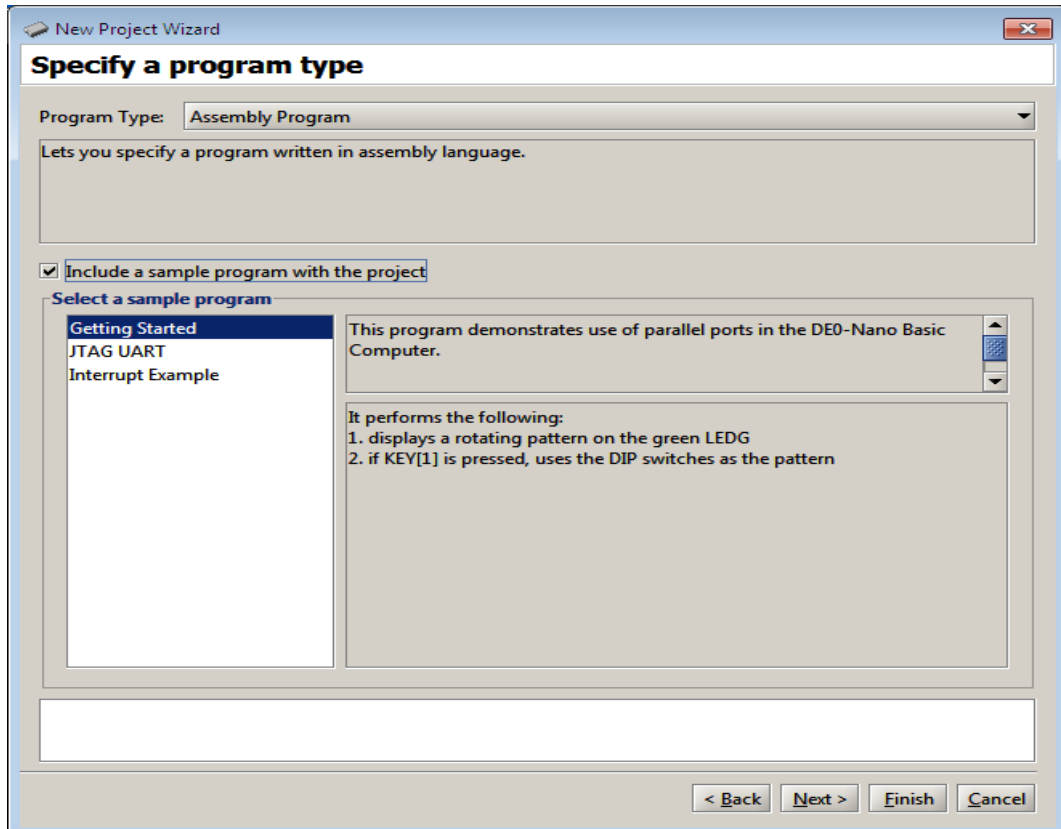
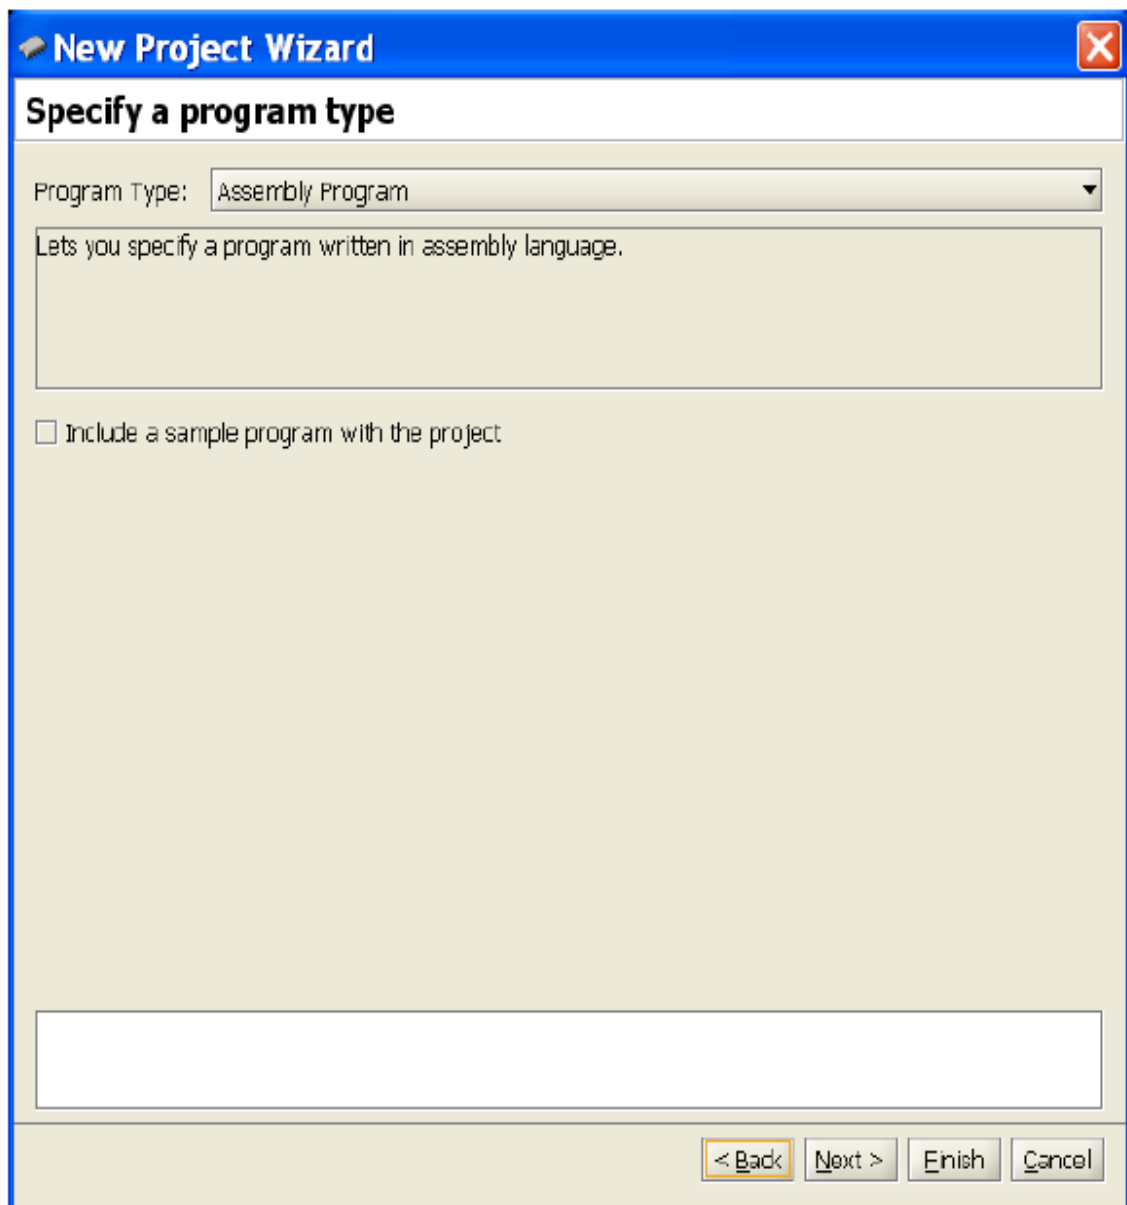

Figure 4: Selection of an application program.
Figure 11: Select the assembly language program.
4. In the window in Figure 4 you can specify the type of application programs that you wish to run. They can be written in either the Nios II assembly language or the C programming language. Specify that an assembly language program will be used. The Altera Monitor Program package contains several sample programs. Select the box Include a sample program with the project. Then, choose the Getting Started program, as indicated in the figure, and click Next.
2. Use the Altera Monitor Program to create a new project in this directory; we have chosen the project name part2. When you reach the window in Figure 4 choose Assembly Program but do not select a sample program, as shown in Figure 11. Click Next.